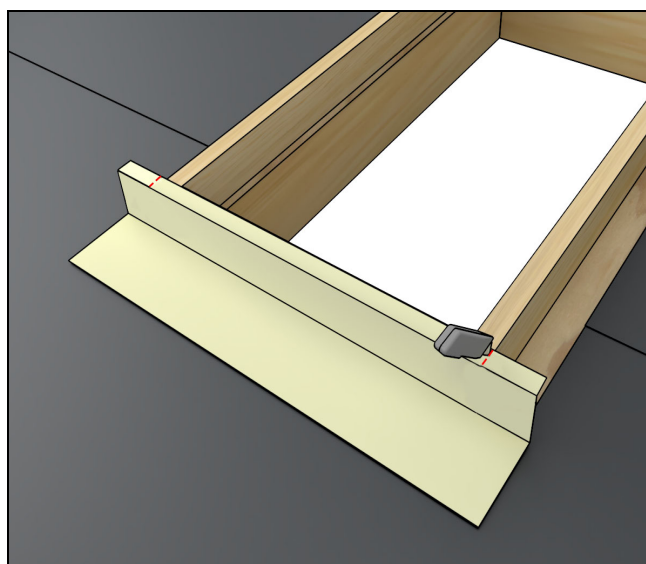

Figure 33
5. To ensure waterproofing, curbs shall be completely wrapped in adhesive flexible flashing as indicated. Underlayment must be applied before installing the rigid flashing. Wrap the bottom and the corners of the curb with the adhesive flexible flashing and create water-shedding laps over roofing underlayment. See Figure 33.